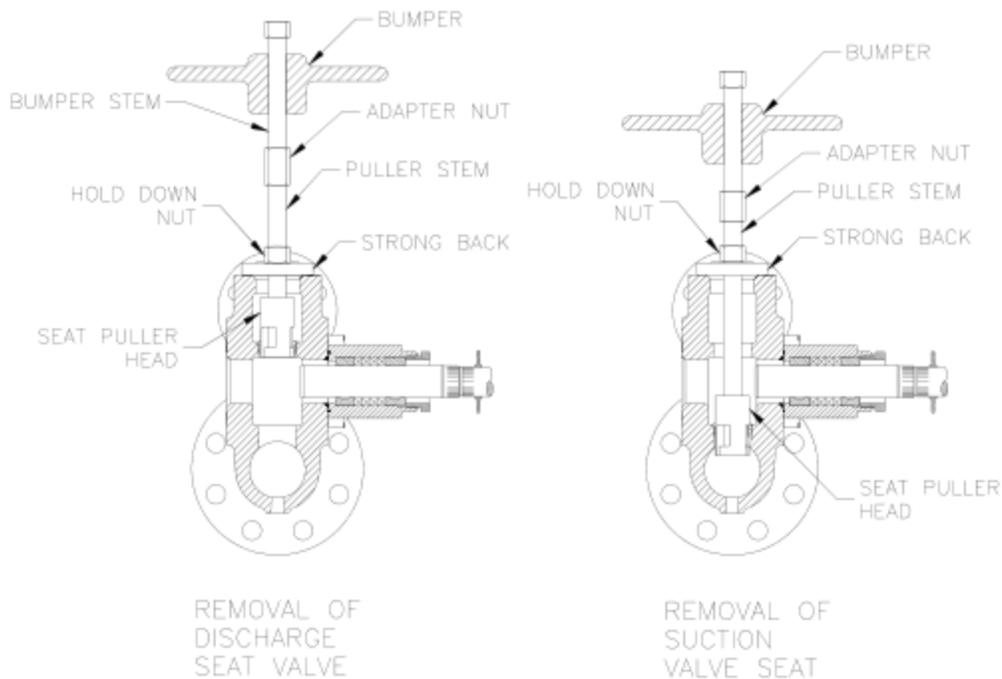

Figure 11
- g. Use the special valve puller and remove the seat. See Figure 11.